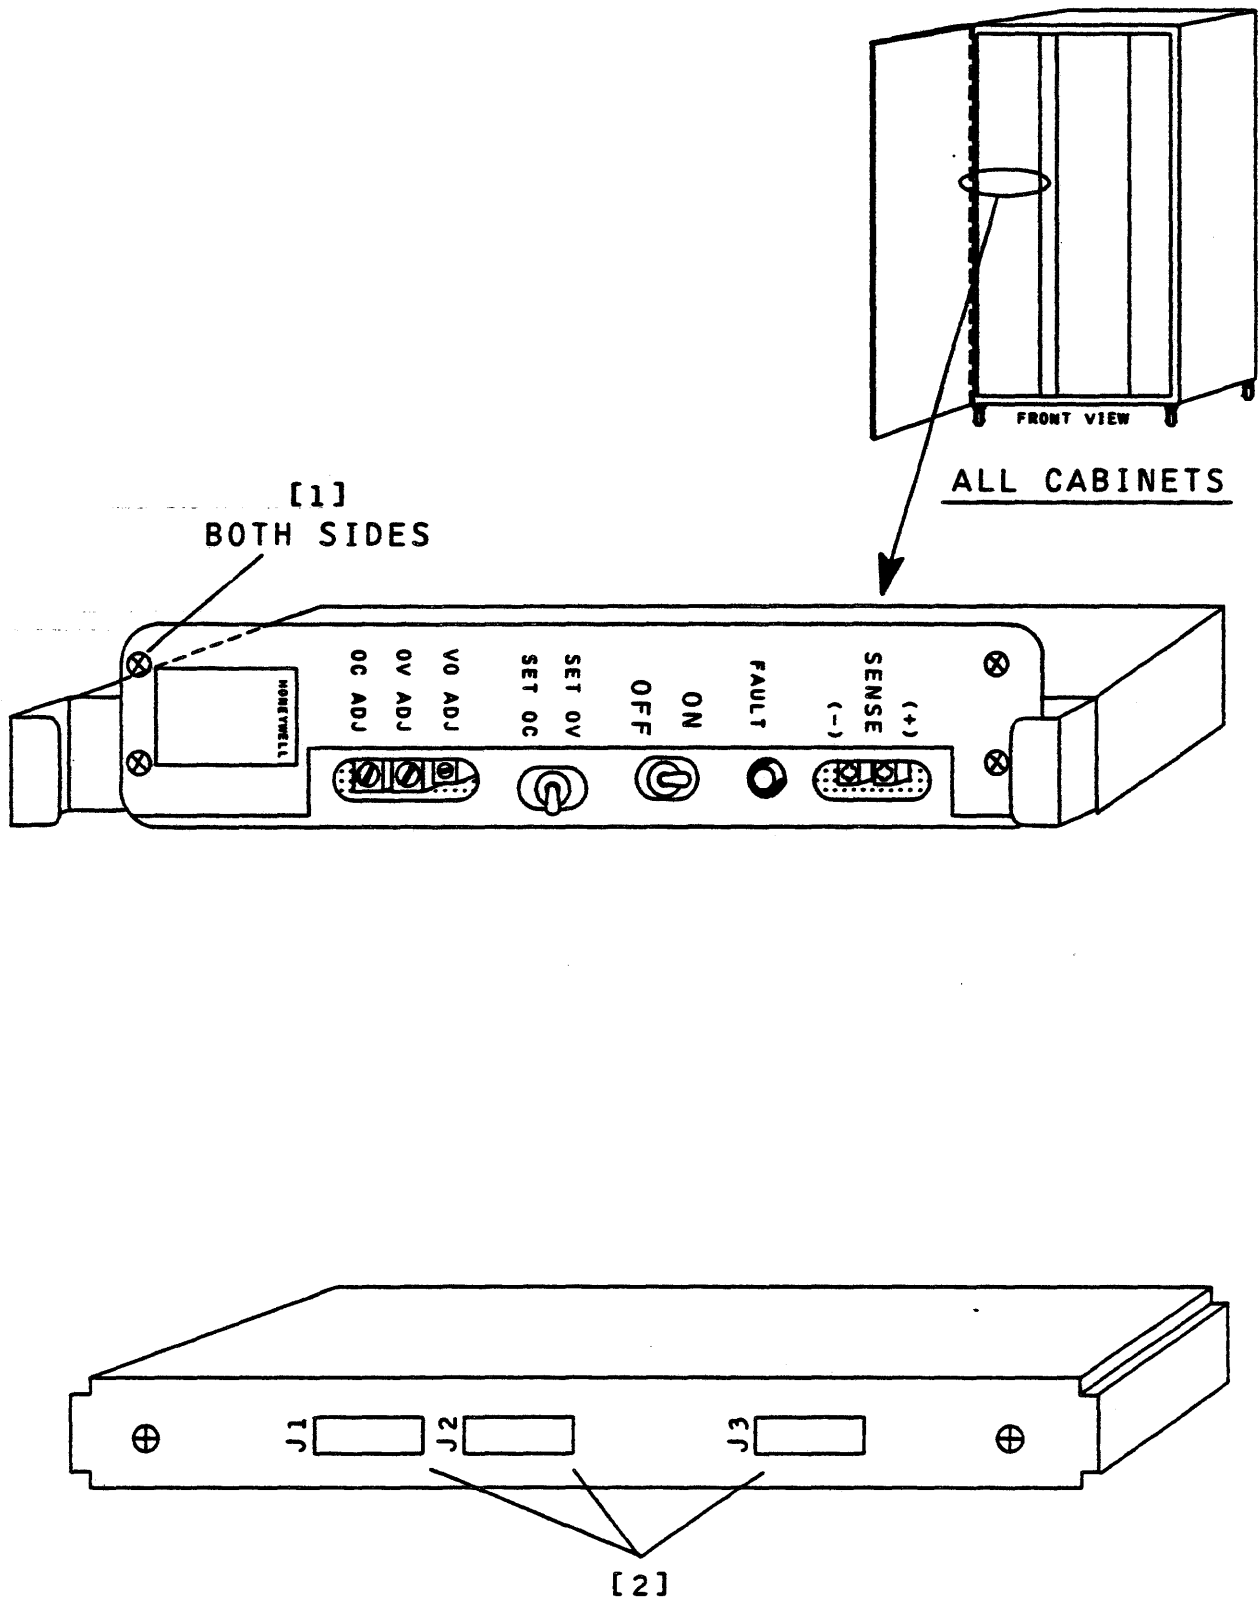

FIGURE 2.16-1. CONTROL REGULATOR MOD. REMOVAL/INSTALLATION
5. Using cross-tip screwdriver, remove module's front securing plate retaining hardware (Figure 2.16-1, [1]).